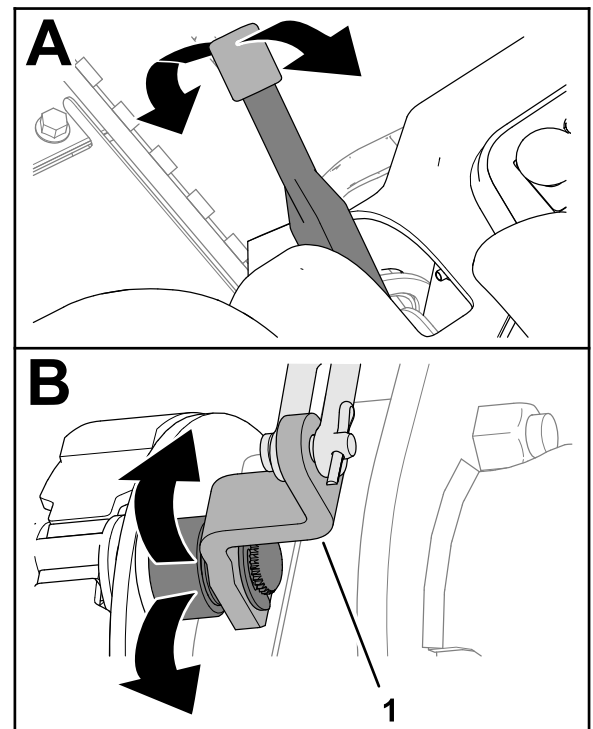

Figure 67
2. Move the parking brake lever up and down to check that the lever for the brake-cam lever moves freely (Figure 67).